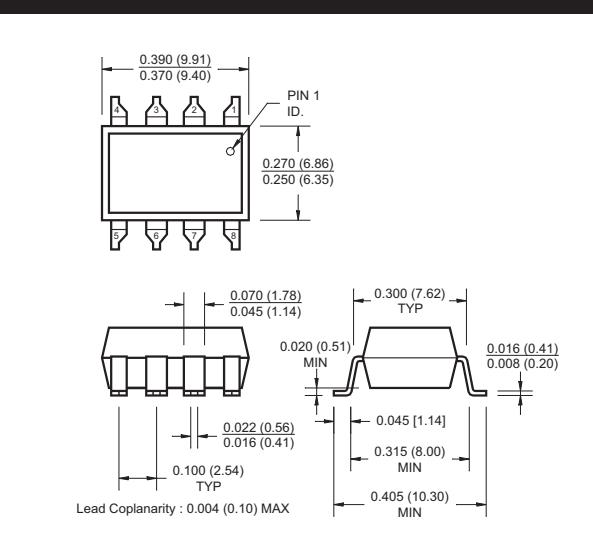

**Fig. 10. Test Circuit for Common Mode Transient Immunity and Typical Waveforms**
7. Common mode transient immunity in logic high level is the maximum tolerable (positive) dVcm/dt on the leading edge of the common mode pulse signal VCM, to assure that the output will remain in a logic high state (i.e., VO > 2.0 V). Common mode transient immunity in logic low level is the maximum tolerable (negative) dVcm/dt on the trailing edge of the common mode pulse signal, VCM, to assure that the output will remain in a logic low state (i.e., VO < 0.8 V). (Refer to Fig.10)